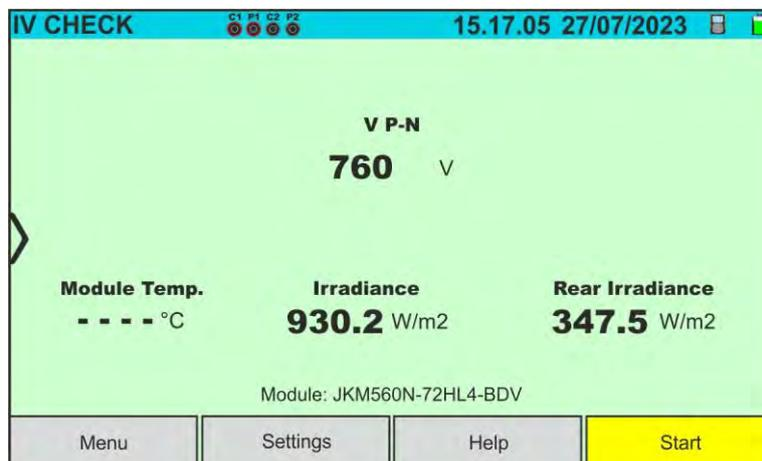

Fig. 54: Initial IVCK test screen without remote unit on Bifacial modules
5. In the case of **Bifacial** modules, the screen of Fig. 54 is present on the display. The following parameters are shown: